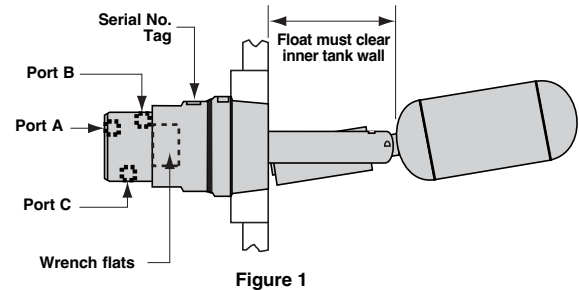

Figure 1
1. Ensure that the length and inside diameter of the mounting nozzle are sized correctly to allow for switch actuation at design levels. Refer to **Figure 1**.
6. Connect the inlet, outlet and exhaust air line(s) to the appropriate ¼" NPT connection port(s) based on the required valve action. Refer to **Figure 1** and **Table 1**.
1. Use only the 2" wrench flats to install or remove the unit. Refer to **Figure 1**. Use of any other surface could change the calibration. The valve body is calibrated at the factory and locked in place.